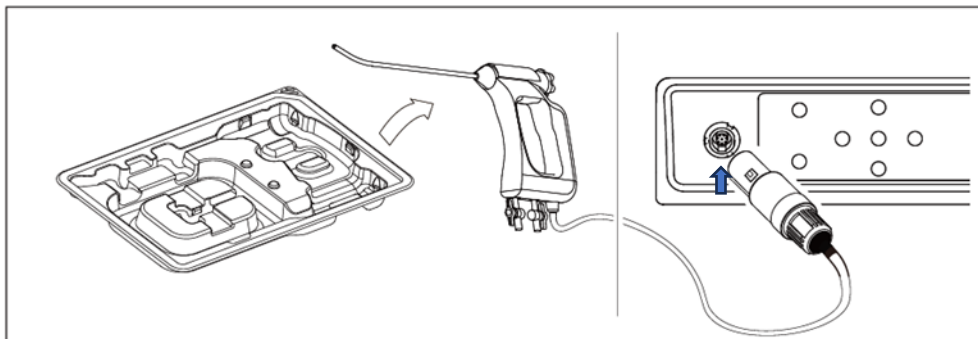

FIGURE 6: DISPOSABLE ELECTRONIC HYSTEROSCOPE CONNECTION TO IMAGE PROCESSOR
5. Remove the hysteroscope from tray packaging. Insert the hysteroscope cable into the signal input interface (Figure 1, ID 1) on the front panel of the image processor as depicted in Figure 6. **Ensure that the notch on the connector is oriented in the 6 o'clock position, notch is downward.**